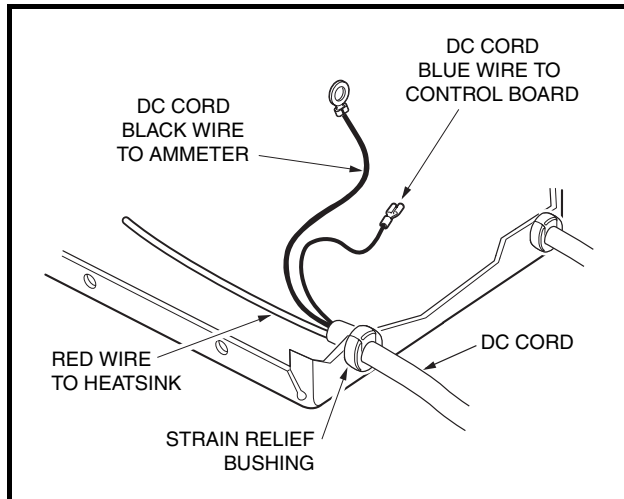
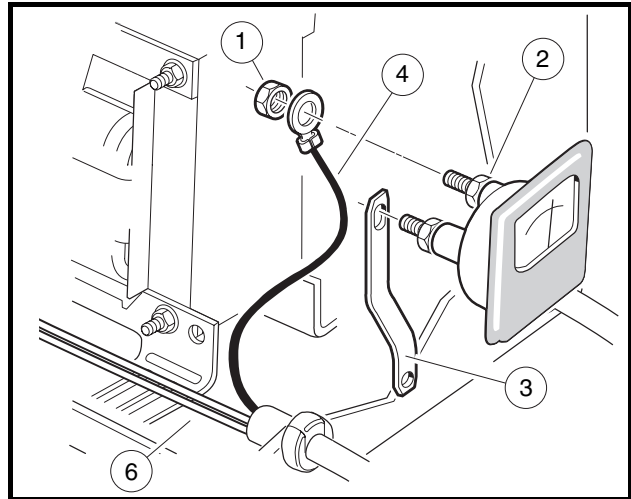

Figure 4-23 DC Cord
Figure 4-24 DC Cord Replacement
3. To check the continuity of the DC cord, disconnect the black wire of the DC cord from the ammeter (**Figure 4-23, Page 4-27**).
4. Remove the other transformer (tan) secondary coil wire from the bottom terminal of the heatsink and place the continuity test clip on the ammeter buss bar (3) (**Figure 4-24, Page 4-27**). Test for continuity between the buss bar and each of the secondary coil wires (tan). The tester should indicate continuity between the buss bar and both of the secondary coil wires. If tester does not indicate continuity on both secondary coil wires, replace transformer. Ensure that the fuse is intact and not blown.
3. Remove the DC cord black wire (4) from the ammeter by loosening the nut (1). Support the terminal as the nut is loosened to prevent rotation of the connection (**Figure 4-24, Page 4-27**).
4. Remove nut attaching the red wire (6) of the charger DC cord to the heatsink.
7. Disconnect the DC cord blue wire from the control board (**Figure 4-23, Page 4-27**).
8. Using pliers, squeeze the strain relief bushing and remove the DC cord (**Figure 4-23, Page 4-27**).
2. Attach the red wire of the new DC cord to the center terminal of the heatsink and tighten the nut to 18 in-lb (2.0 N·m) (**Figure 4-23, Page 4-27**).
3. Attach the blue wire of the new DC cord to the control board (**Figure 4-23, Page 4-27**).
4. Attach black wire of the new DC cord to ammeter. Install nut (1) onto post of ammeter slightly more than finger tight. While holding the inside nut (2), tighten the outside nut (1) 1/4 turn (**Figure 4-24, Page 4-27**). **See following CAUTION.**